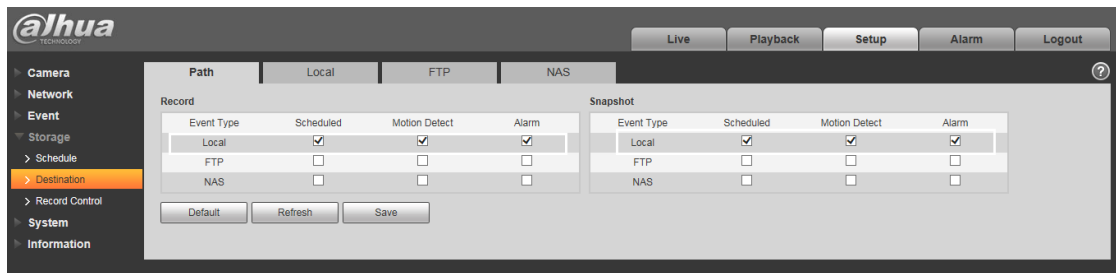

Figure 14-2
- ① read only
- ② read and write
- ③ click Hot Swap before pull out the card
- ④ refresh
- ⑤ format the SD cards
2) After setting the SD card, go to 'Storage-Destination-Path', Choose 'Local' in record/snapshot as shown in figure 14-2